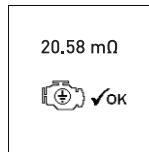

Fig.66
- If the measured resistance reading is within limits, then it will display as follows (Fig.66)